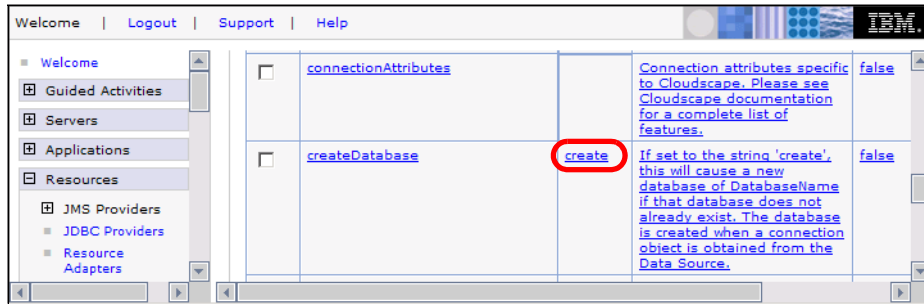

Figure 10-11 Automatic database creation
- ▶ Select the *createDatabase* property and enter a value of *create*. Click *Apply*, then *OK*. This specification will create the database on the first access (Figure 10-11).